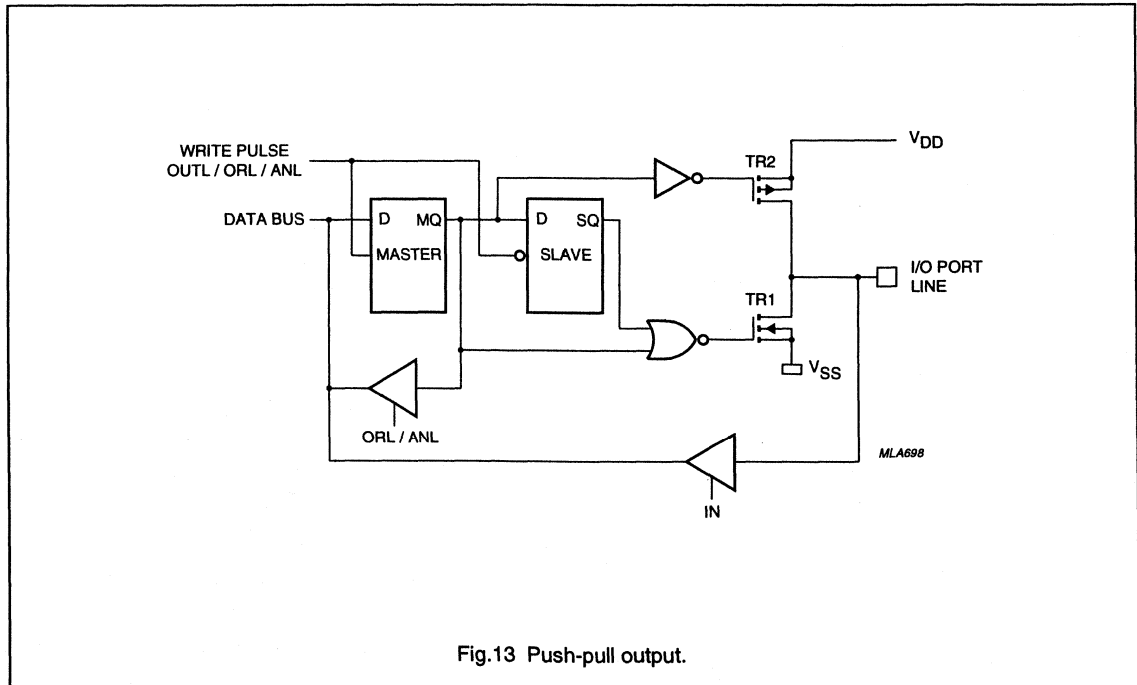

Fig.13 Push-pull output.
- Option 3 Push-pull; drive capability of the output will be 5 mA (typ.) at  $V_{DD} = 3$  V in both polarities. Since short circuit currents would flow during input, push-pull lines must only be used as outputs (see Fig.13).